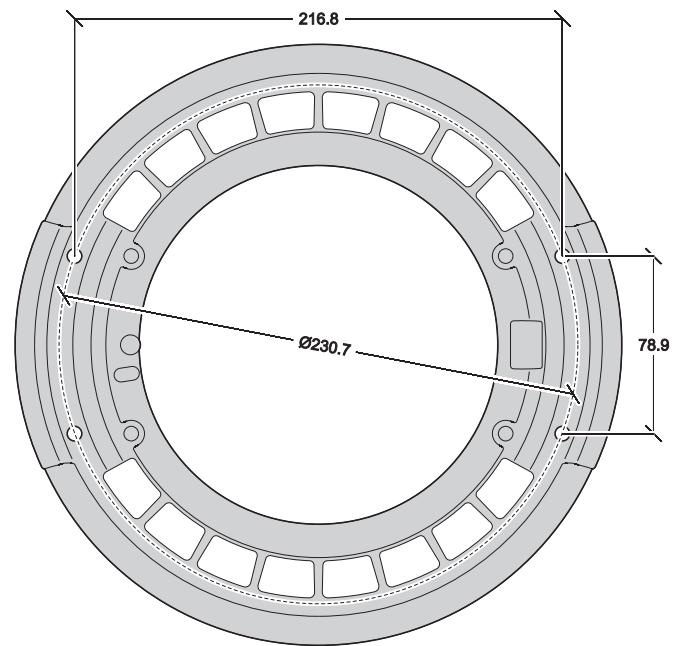

Figure 15: Dimensions for followspot handles
Warning! Screws used to fasten any item to the rear of the head may only be fastened into the holes (arrowed in Figure 15) provided in the rear head cover. Do not attempt to fasten any item to the rear of the head by any other method. Screws must not protrude more than 15 mm (0.6 inches) into the rear head cover, or there is a danger that they may damage electrical insulation inside the head and create a risk of serious or lethal electric shock for the operator.
- Four holes (arrowed in Figure 15) are provided in the fixture’s rear head cover for fastening followspot handle mounting brackets.
Besides being constructed so that they will not foul the yoke at any point in the tilt range, mounting brackets must match the dimensions shown in Figure 15.
Dimensions in Figure 15 are shown in millimeters: